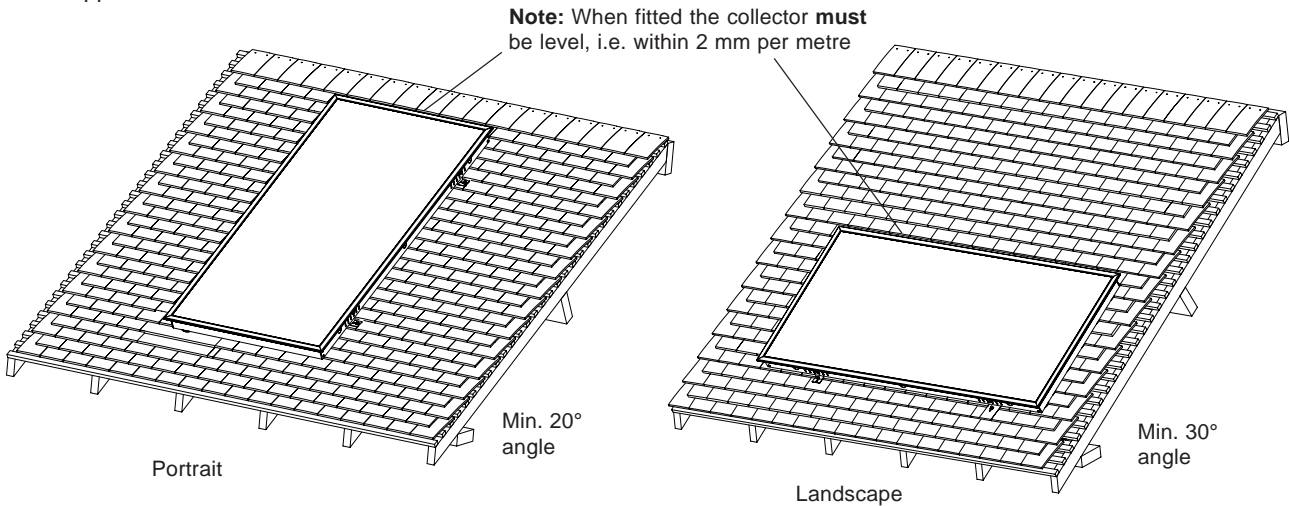

Fig. 7
3.6 SOLAR COLLECTOR INFORMATION - Fig. 7
- a. **Integration of the collector into the tiles of a pitched roof:** Using the Alpha Flashing Kit (Part No. 6.4000750 portrait or Part No. 6.4000650 landscape), landscape or portrait collectors can be integrated into the structure of a pitched roof as shown in Fig. 7. The roof must have an inclination of more than 20° and the tiles used with the flashing kit must be suitable to ensure that the installation is weatherproof. Full details of this type of installation are provided in the instructions supplied with the kit.